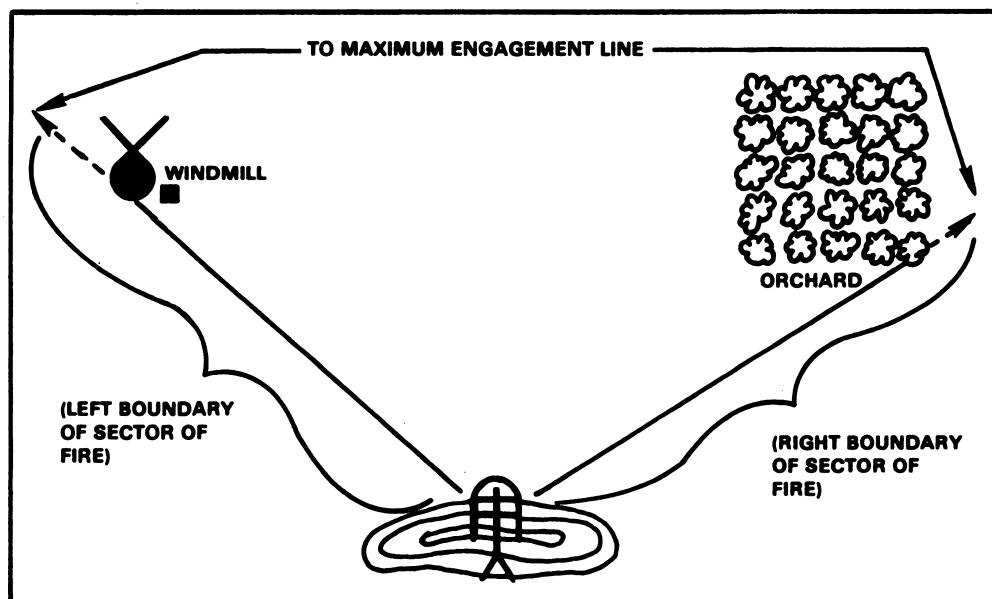

Figure 3
(3) Draw and label sketches of terrain features which indicate the boundaries of your sector of fire. Draw lines from your weapon symbol to the terrain features (fig. 3).
(4) Draw and label sketches of terrain features which include: